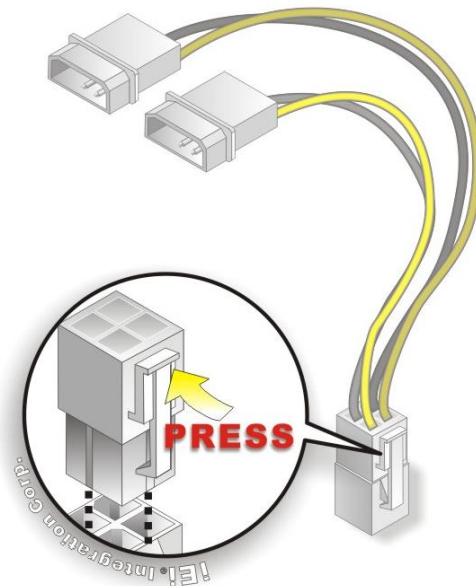

Figure 4-11: Power Cable to Motherboard Connection
Step 2: **Connect the power cable to the motherboard.** Connect the 4-pin (2x2) Molex type power cable connector to the power connector on the motherboard. See Figure 4-11